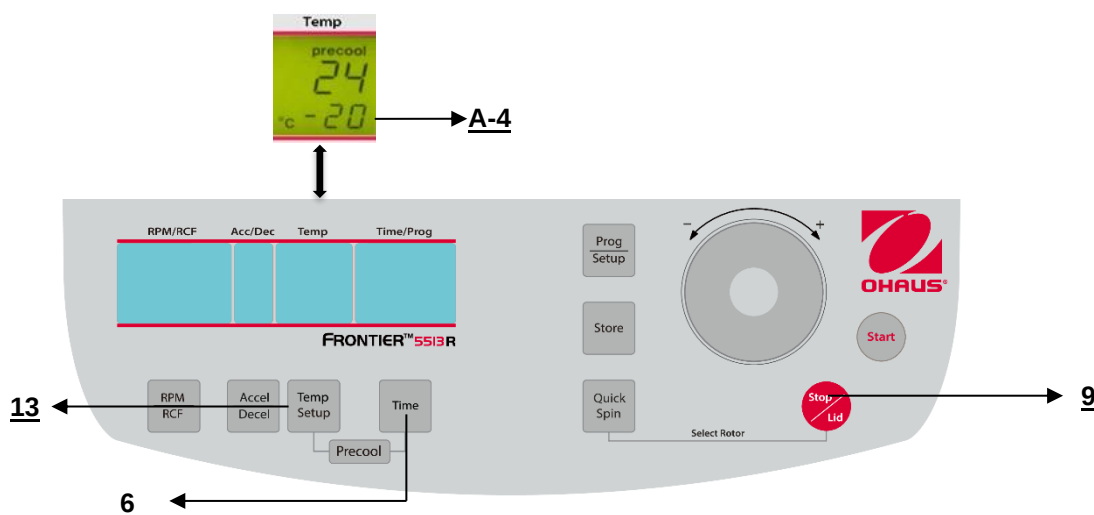

Figure. 17
If the samples are temperature-sensitive it is useful to pre-cool the centrifuge, the rotor and eventually the buckets to the required working temperature. Therefore, insert the desired rotor and pre-set the respective temperature. By simultaneous pressing the keys **"Temp/Setup"** (13) (refer to figure 17) and **"Time"** (6) you start the run. While running, the unit chooses automatically a rotational speed that is equivalent to 20 % of the permitted rotational speed of the respective rotor. After the pre-set temperature is reached you can leave the pre-cooling run with the **"Stop"** key (9). Depending on the inserted rotor the pre-cooling goes between approx. 10 and 20 min.